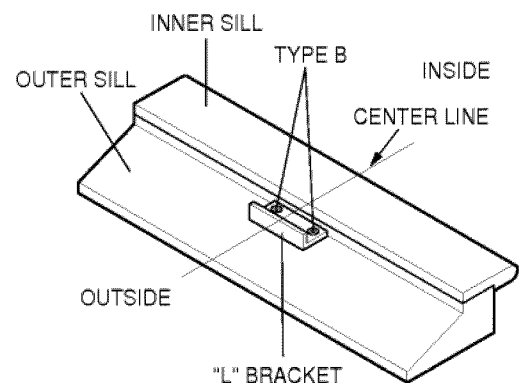

Fig. 8
- b. Bracket helps to hold unit securely in place. Be sure to place bracket edge flush against back of inner sill. See Fig. 8.
- a. Carefully lift the air conditioner and slide it into the open window. Make sure the bottom guide of the air conditioner drops into the notches of the "L" bracket. See Fig. 8.